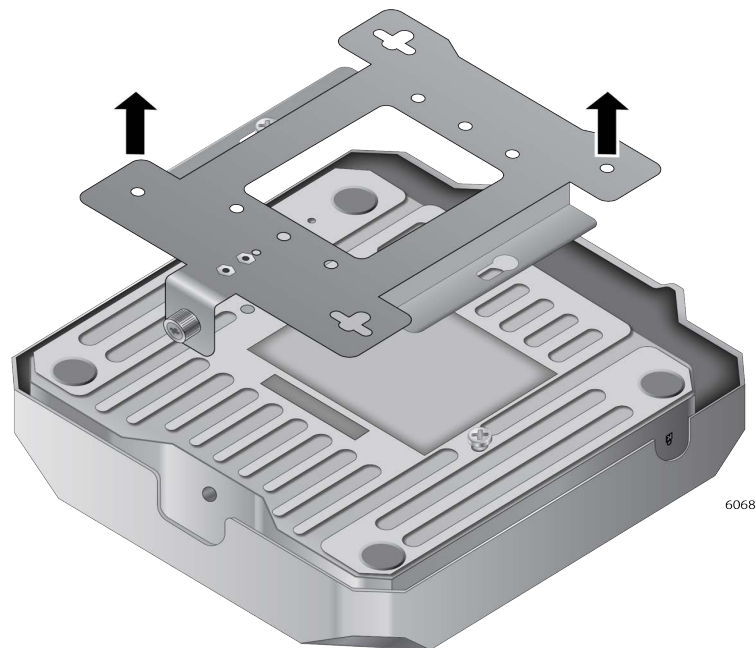

Figure 15. Removing the Mounting Bracket from the Access Point
4. Slide the mounting bracket forward and remove it from the access point. See Figure 15.